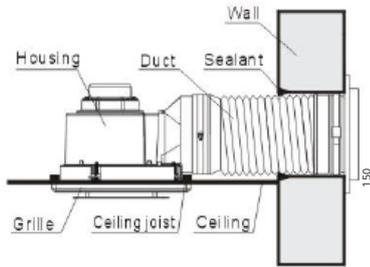

Figure 1: Installing ducting (sold separately)
- If ducting is required for ventilation. Install a 100mm duct pipe to the exhaust fan and lay the ducting across the ceiling and onto a suitable 100mm exhaust vent (see figure 1)